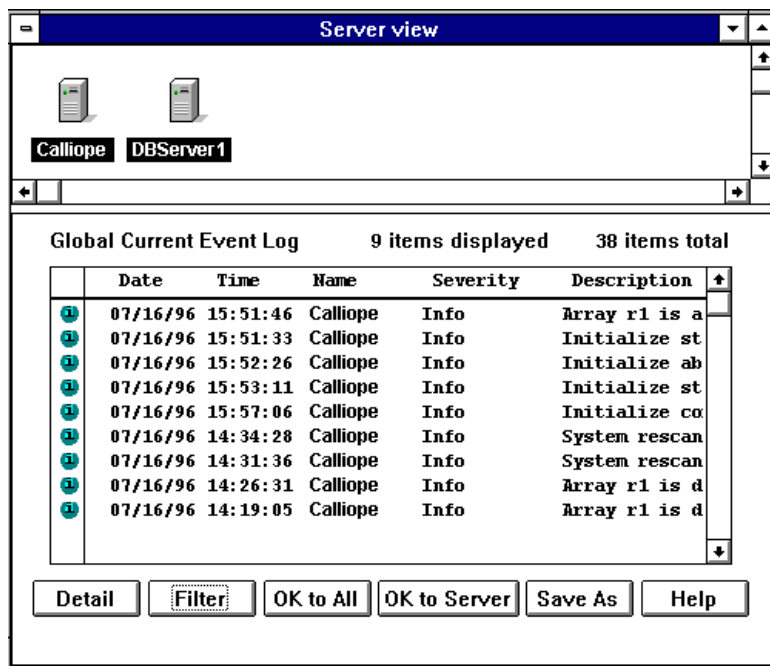

Figure 2-3. Listing of Server Events
- 1 Select **Server View** from the File menu. The Server View window appears. The Global Current Event Log at the bottom of this window lists server events, as shown in Figure 2-3.